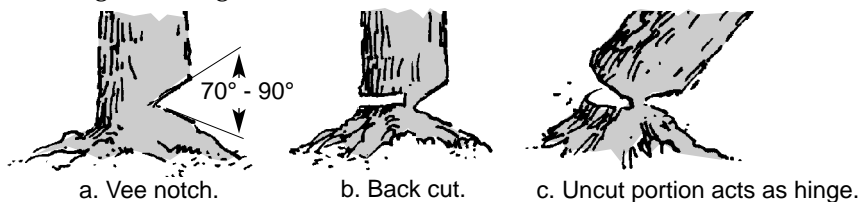

Figure 5. Notching a tree.
- On larger trees cut an open face notch (70° to 90°) on the fall side of the trunk (Figure 5). This will allow the tree to fall all the way to the ground without the hinge breaking.